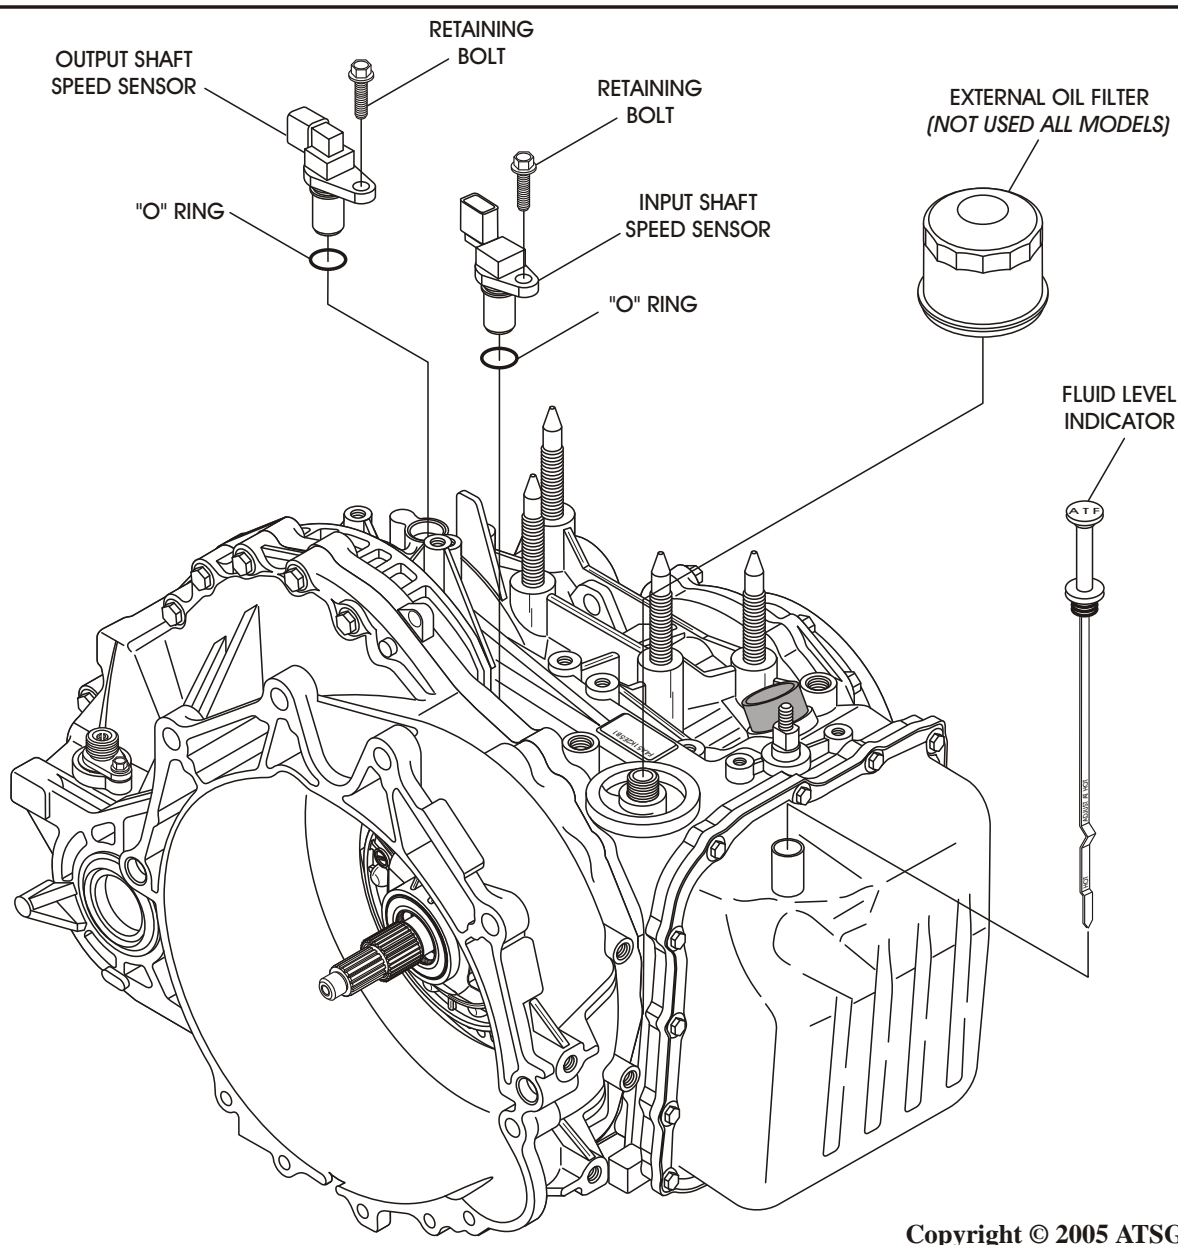

Figure 23
4. Remove the fluid level indicator from transaxle as shown in Figure 23.
5. Remove and discard the external oil filter from transaxle, as shown in Figure 23.
6. Remove the input shaft speed sensor retaining bolt and the input shaft speed sensor, as shown in Figure 23.
8. Remove the output shaft speed sensor retaining bolt and the output shaft speed sensor, as shown in Figure 23.